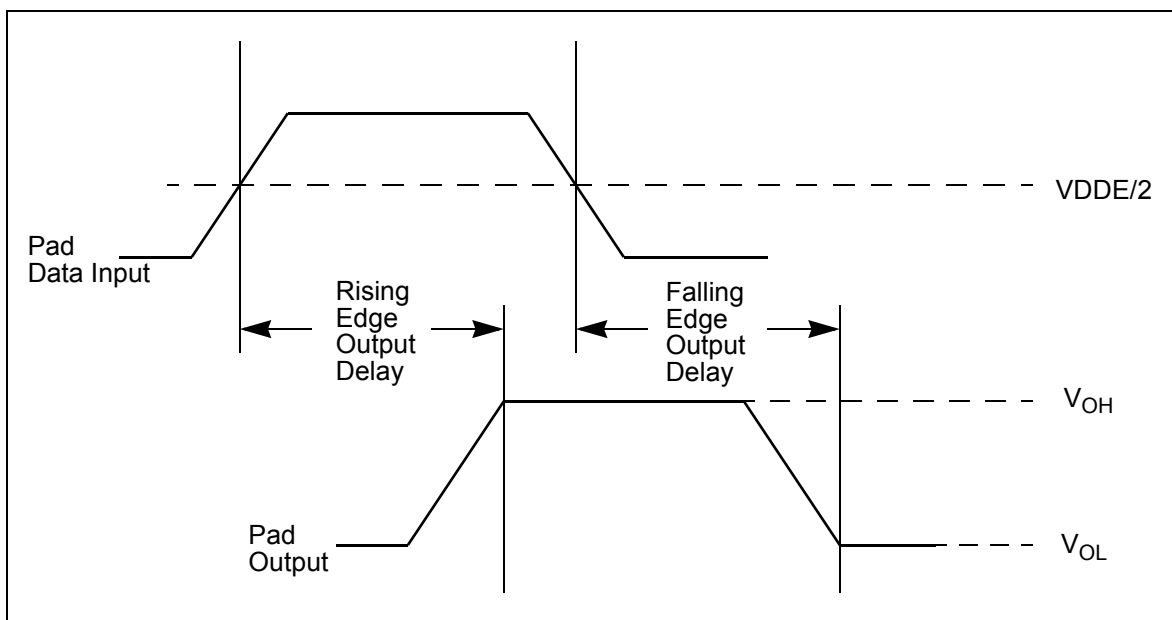

Figure 9. Pad output delay
⁷ Output delay is shown in Figure 9. Add a maximum of one system clock to the output delay for delay with respect to system clock.
- ⁷ Output delay is shown in Figure 9. Add a maximum of one system clock to the output delay for delay with respect to system clock.